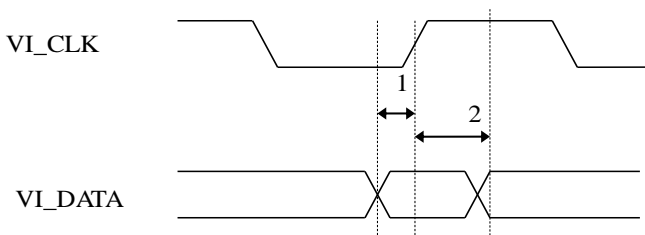

FIGURE 11. VI_CLK AND VI_DATA TIMING
2. The TW2826 has option to latch VI data using both positive and negative edge; please refer to register 0x22[7:4] and "Application Guide 6: Video Input Configuration" on page 39. In Figure 11, we only characterize rising edge case.